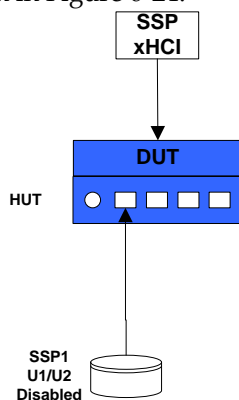

Figure 6-24: Compound Device and U1/U2 Disabled Device
- Attach tree to the host as shown in Figure 6-24.